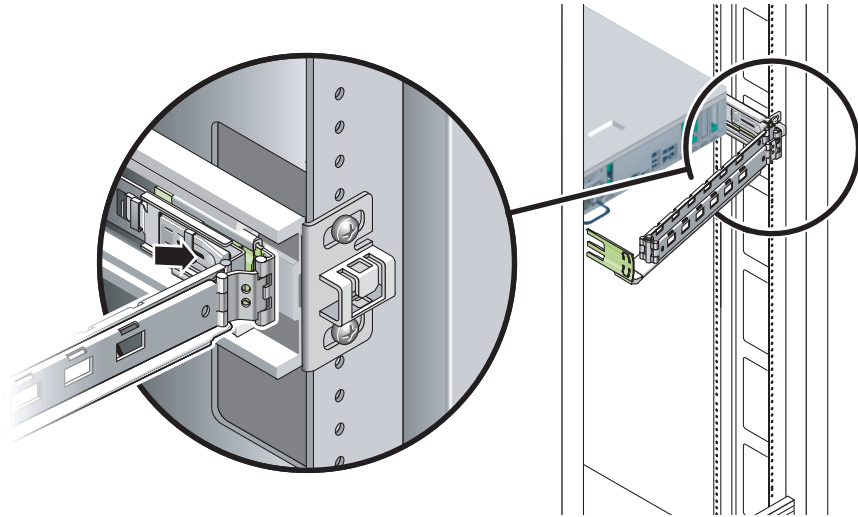

FIGURE 2-2 Locating the Metal Lever
4. Press the metal lever (FIGURE 2-2) that is located on the inner side of the rail to disconnect the CMA from the rail assembly (on the right side from the rear of the rack).